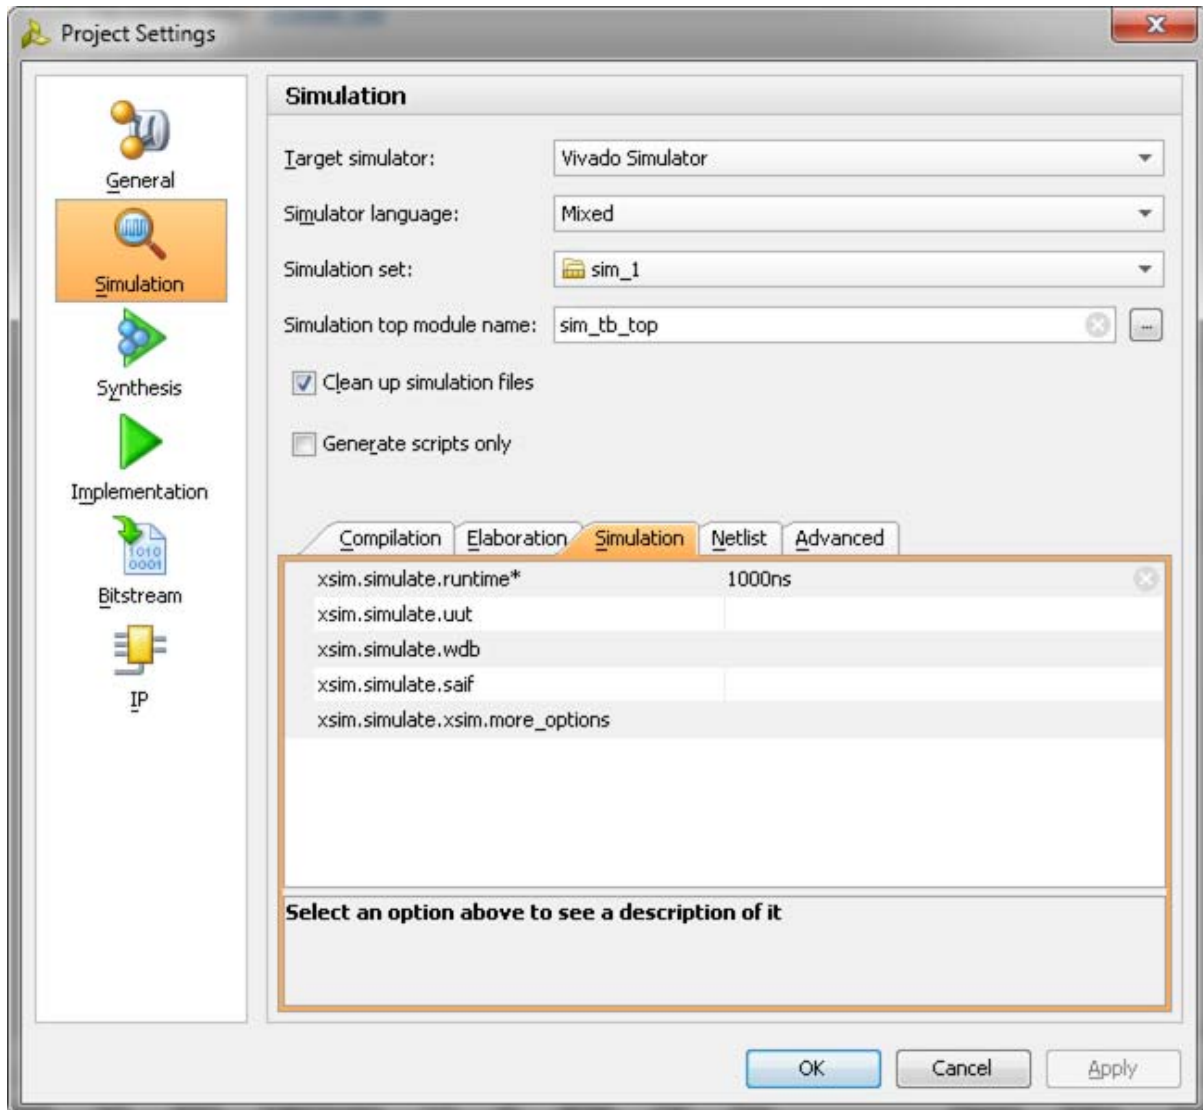

Figure 4-39: Simulation with Vivado Simulator
1. In the **Open IP Example Design** Vivado project, under **Flow Navigator**, select **Simulation Settings** (Figure 4-39).
2. Under the **Simulation** tab as shown in Figure 4-39, set the `xsim.simulate.runtime` as 1 ms (there are simulation RTL directives which stop the simulation after a certain period of time, which is less than 1 ms). Apply the settings and select **OK**.
- Under the **Simulation** tab, set the `modelsim.simulate.runtime` to 1 ms (there are simulation RTL directives which stop the simulation after certain period of time, which is less than 1 ms), set `modelsim.simulate.vsim.more_options` to `-novopt` as shown in Figure 4-39.